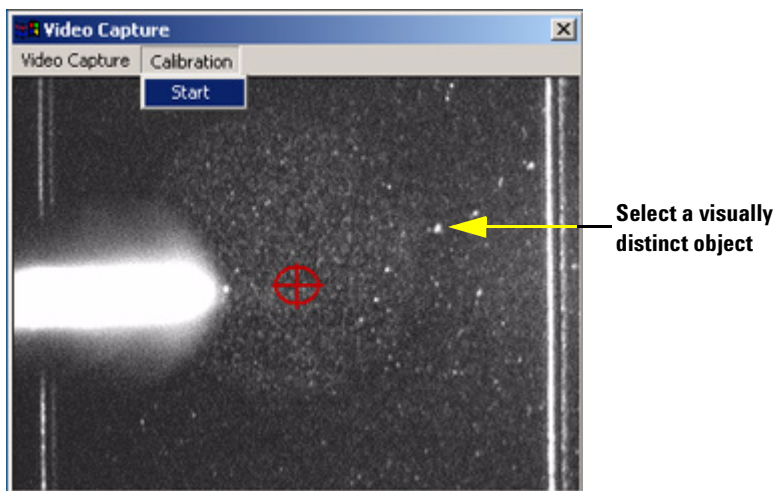

Figure 69 Start Video Capture sample-positioning Calibration Procedure by selecting visually distinct object
- 2 Ensure that there is a distinct visual object in the lower right-hand quadrant of the screen. See example in Figure 69.